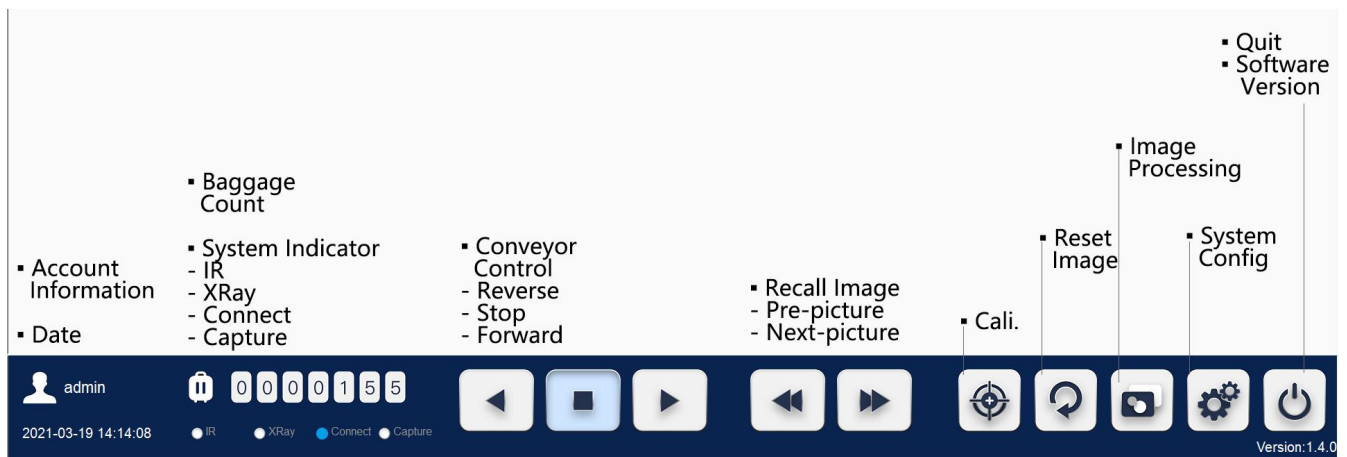

Figure 7 Scanning Screen
Before any operation, you need to click on the **“Calibration”** [P-17 Figure 7] firstly to calibrate the background color. Or you can press the “Calibrate” button on the standard keyboard [P-20 Figure 10]
- The 4 system indicators become Blue [P-17 Figure 7]